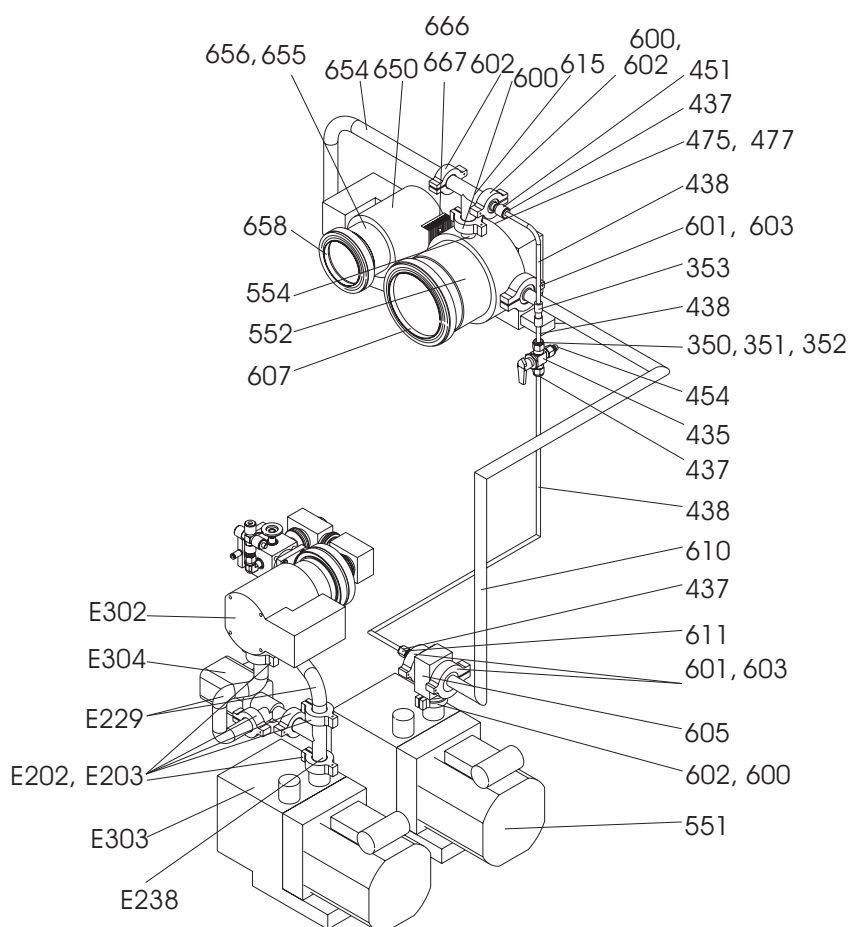

Figure 9-1. Pump System (no Part No. of its Own)
The pump system, Figure 9-1, is a part of the basic unit (Part No. 116 6000). It has no Part No. of its own as it comprises sub-units summarized in Table 9-3. These will now be presented successively.
* Refer to Figure 9-1.
^{*}Refer to Figure 9-1.